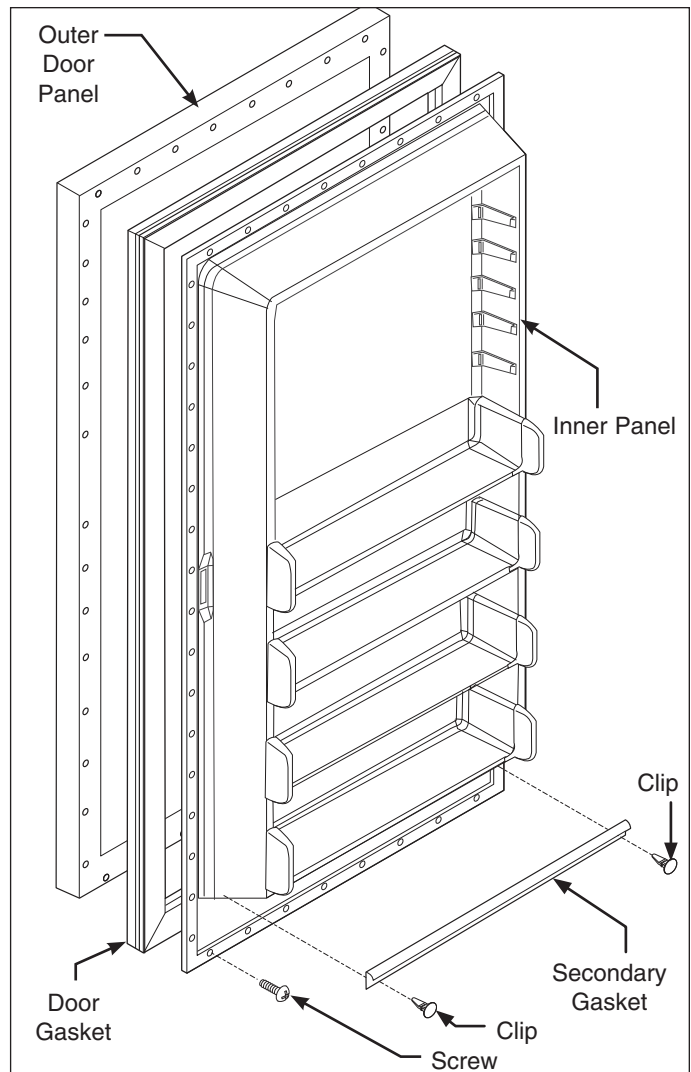

Figure 6-41. Inner Panel and Door Gasket Removal
2. Loosen the inner panel screws until the door gasket can be pulled out from under the inner panel. (See Figure 6-41)